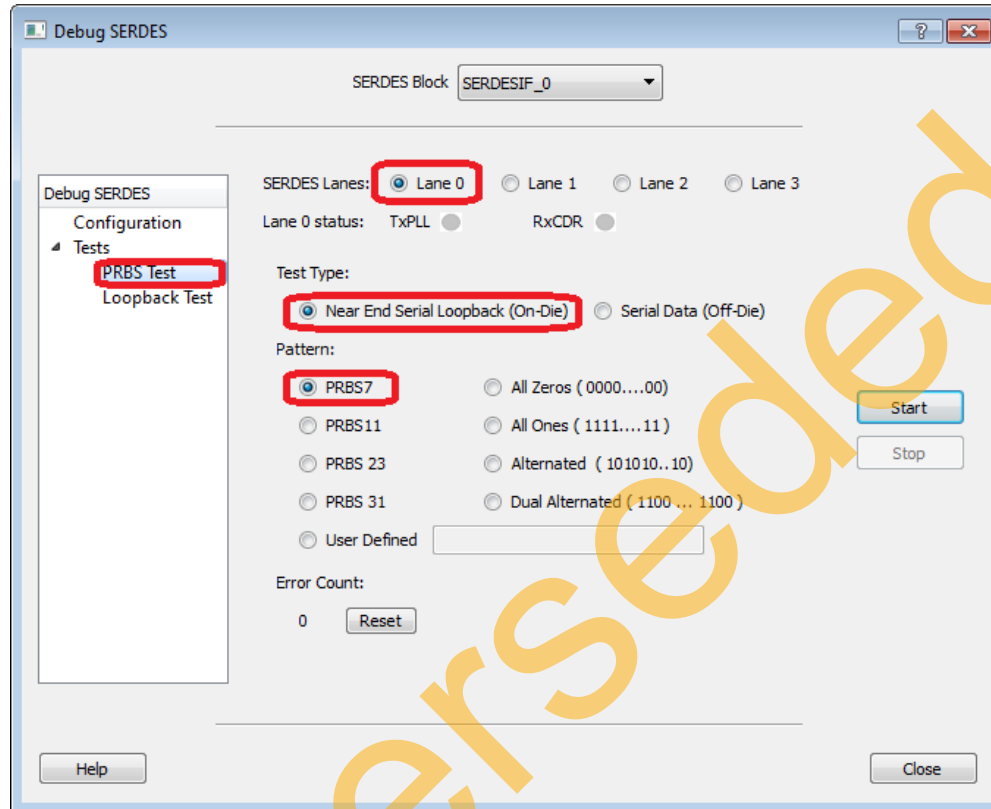

Figure 24 • SERDES Test Tab
- The **PRBS Test** tab provides several capabilities for each Lane of the SERDES Block. The information is provided per-channel, based on the SERDES Lane selected within the GUI. For example, select **Lane 0**, select the **Near-end Serial Loopback test type**, and select **PRBS7 Pattern**. This test will generate and check PRBS7 data without going off-chip, as shown in Figure 24.